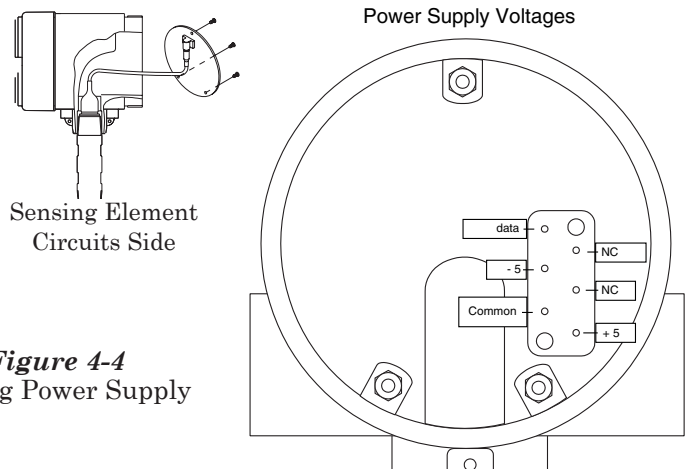

Figure 4-4
5. Using a DC voltmeter, measure voltage from -5 to Common and +5 to Common. Correct readings are -5 to -6 and +5 to +6 Vdc. **See Figure 4-4**